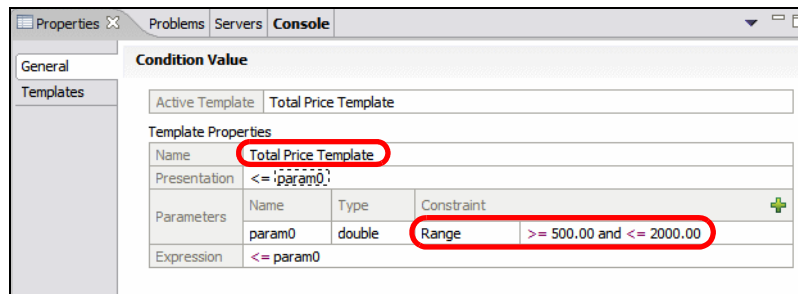

Figure 16-13 Converting the values to a template
- ▶ In the Properties view (Figure 16-13) change the name to Total Price Template. Click in the Constraint column and select *Range*. Click *Enter Expression* and select *Inclusive Range* and enter the values 500.00 and 2000.00.